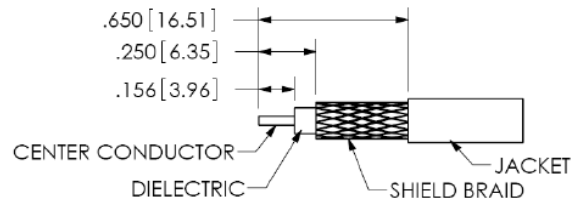

Figure 2-7. RG-400/RG-142 Coaxial Cable Stripping Dimensions
2. Strip the cable to the dimensions shown in Figure 2-7.